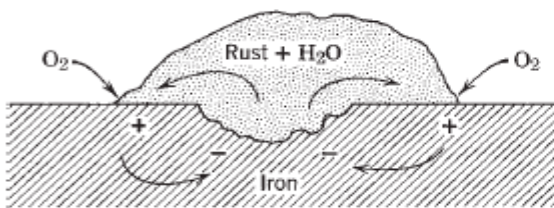

**Figure 2.3.** Salt concentration cell.
- a. The first is called a *salt concentration cell*. For example, if one copper electrode is exposed to a concentrated copper sulfate solution, and another to a dilute copper sulfate solution (Fig. 2.3 ), on short - circuiting the electrodes, copper dissolves (i.e.,  $\text{Cu} \rightarrow \text{Cu}^{2+} + 2e^-$ ) from the electrode in contact with the dilute solution (anode) and plates out (i.e.,  $\text{Cu}^{2+} + 2e^- \rightarrow \text{Cu}$ ) on the other electrode (cathode). These reactions tend to bring the two solutions to the same concentration.